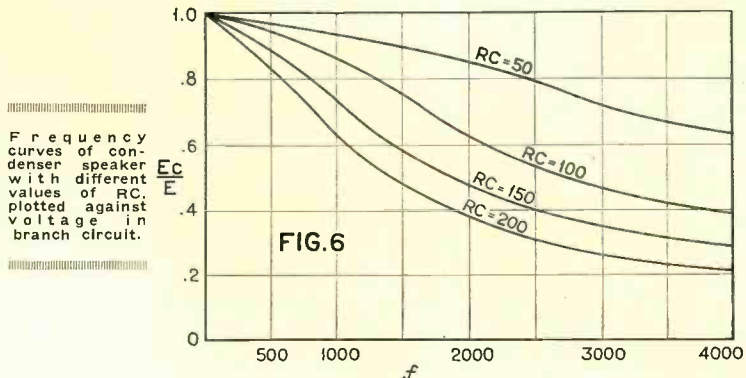

FIG. 6
Plotting  $\frac{E_c}{E}$  as a function of frequency for different values of *RC* we get the curves of Fig. 6.
It is therefore seen that if we measure the response of a condenser speaker maintaining a constant voltage across it this response curve may be modified by multiplying its ordinates by the respective ordinates of the proper curve in Fig. 6, so as to give the response when used in a circuit similar to Fig. 5.
**A. Impedance matching:** As ordinarily hooked up, the circuit using the condenser speaker may be considered as analogous to that of Fig. 6, where *R* is the output impedance of the amplifier and a constant input voltage is being applied at *E*. The capacity *C* of the speaker averages about .004 microfarad per 8"x12" section. Referring to the curves of Fig. 6 it is seen that we can alter the frequency response of the combination by changing the value of the product *RC*. We can change *R* by changing the output tube or by using a transformer between it and the speaker, and we can change *C* by using different numbers of sections in the speaker or for special purposes by connecting groups of sections in series-parallel. This is not very desirable for most installations as it complicates the biasing circuit somewhat. It may be mentioned that we